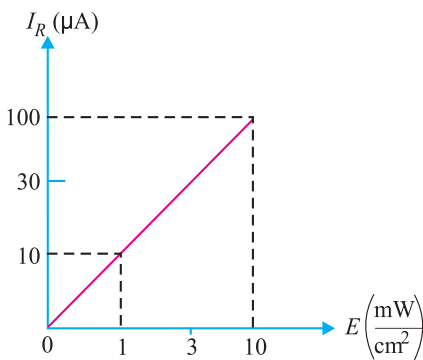

Fig. 7.12
Fig. 7.12 shows the graph between reverse current (I_R) and illumination (E) of a photo-diode. The reverse current is shown on the vertical axis and is measured in μA . The illumination is indicated on the horizontal axis and is measured in mW/cm^2 . Note that graph is a straight line passing through the origin.